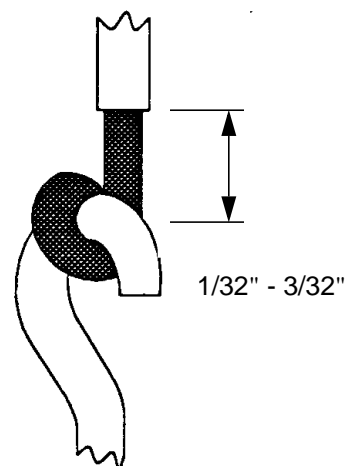

Figure 2 - Mechanical Hook-Up of Hook Terminals
- 5.7.1 Wrap the wire lead approximately 270° around the hook as shown in Figure 2